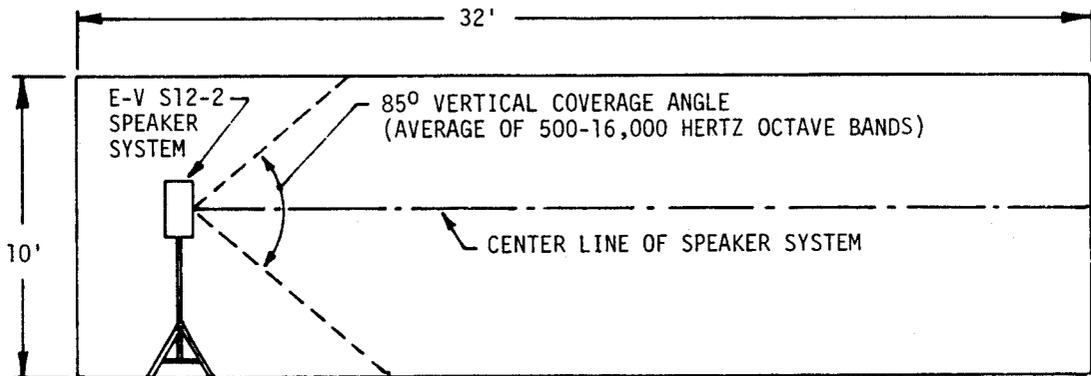

FIGURE 8 – Small Size Room Elevation View
**Small Size Room.** If you need to supply sound to a fairly small room, say 31¼ feet x 32 feet x 10 feet high or a room volume of 10,000 cubic feet, the system design shown in Figures 8 and 9 shows a typical setup that will usually work well.
generate average sound pressure levels of 111 dB and peak sound pressure levels of 121 dB. The Dominators would be capable of producing 116 dB average sound pressure levels with peak level capability of 126 dB. If you wanted a mixer with reverb, you could use the TAPCO 6000R in place of the TAPCO 6000CF mixer shown. Other substitutions and additions could be made to suit your own personal needs. If you are designing a system to be permanently installed in the same room, you could mount a pair of PI12-2 or PI15-3 speaker systems on the wall close to the location shown in Figures 8 and 9.